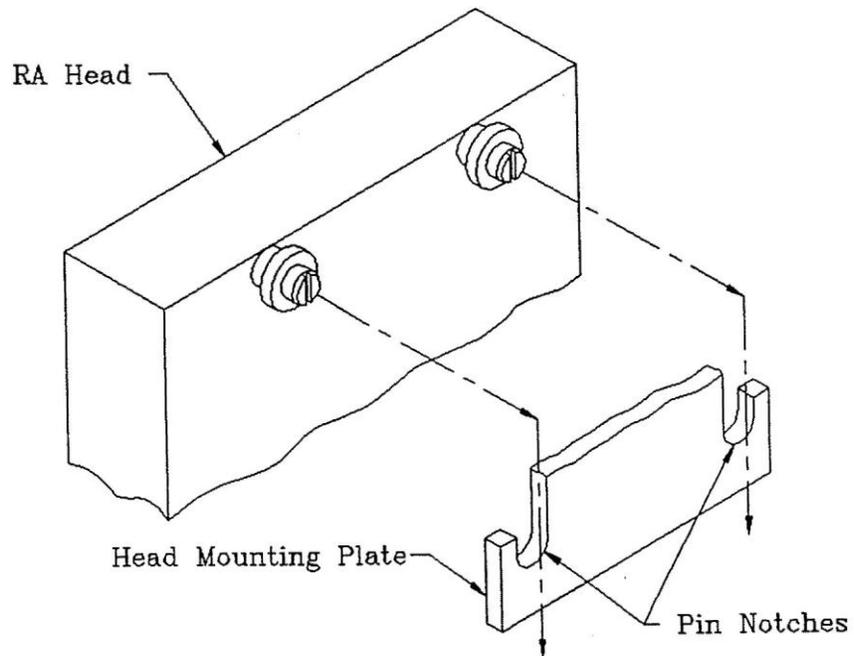

Figure 10
- D. Position the back of the analgesia head parallel with the head mounting plate. Slide the head downward until the spacers, installed in step "A", are engaged in the pin notches. (See fig 10).